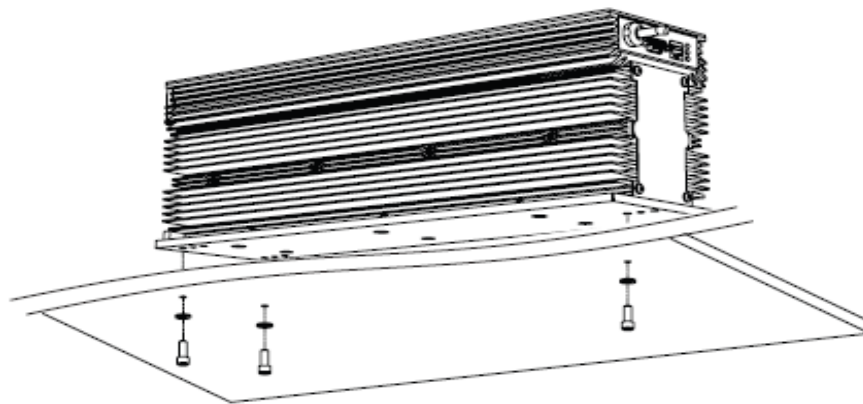

Figure 1-2 OEM v30 mounting locations (1/4-20 fastener locations shown)
- 2 Place the v30 laser on the mounting surface so that the threaded holes in the base plate line up with the holes in your mounting surface as shown in Figure 1-2.